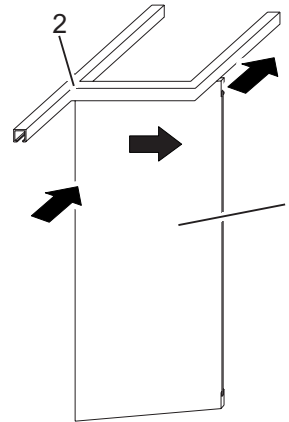

Fig. 1: Moving the panels into the stacking area (example).
1. Slowly move the unlocked panel (Fig. 1/1) to the branch point (Fig. 1/2).